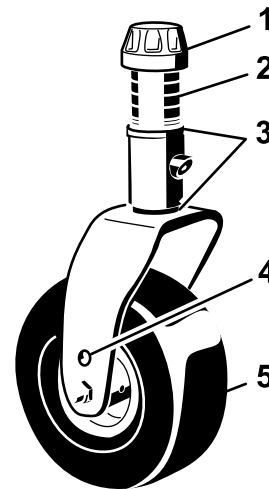
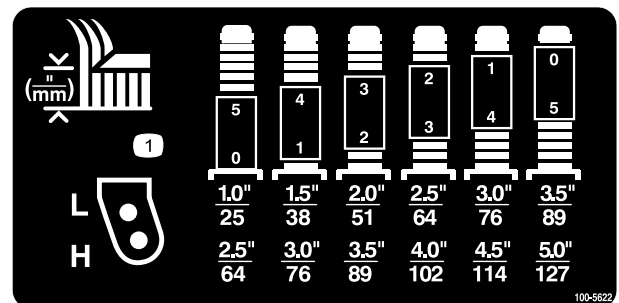
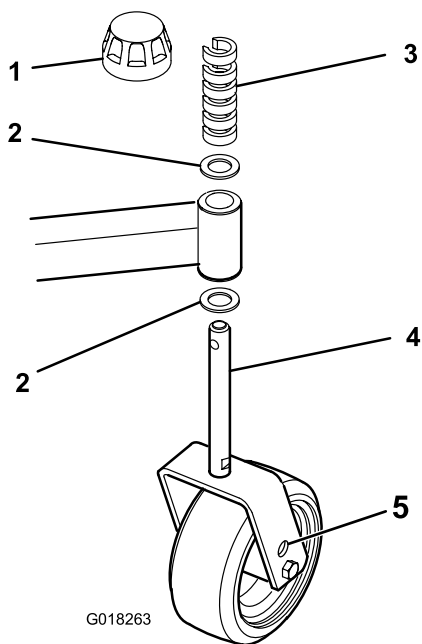

Figure 7
Figure 8
Figure 9
2. Position the castor wheel axles in the same holes in all castor forks. Refer to Figure 7, Figure 8 and Figure 9 to determine the correct holes for the setting.
1. Remove the tensioning cap from the spindle shaft (Figure 7) and slide the spindle out of the castor arm. Put the 2 shims (1/8 inch) onto the spindle shaft as they were originally installed. These shims are required to achieve a level across the entire width of the cutting units. Slide the appropriate number of 1/2 inch spacers onto the spindle shaft to get the desired height-of-cut; then slide the washer onto the shaft.
Refer to Figure 8 to determine the combinations of spacers for the setting.
1. Remove the tensioning cap from the spindle shaft (Figure 9).